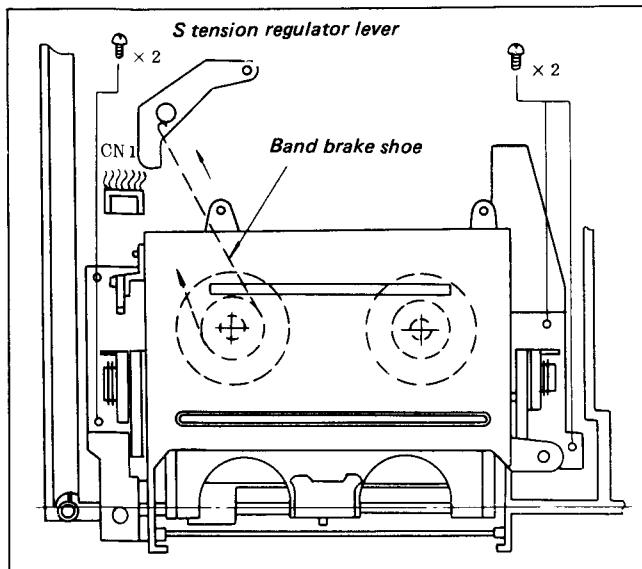

Fig. 3-8. Replacement of Cassette-Lift Assembly
- (1) Measure the height of the reel table with a slide caliper prior to the removal of the old reel table. (See Fig. 3-8)